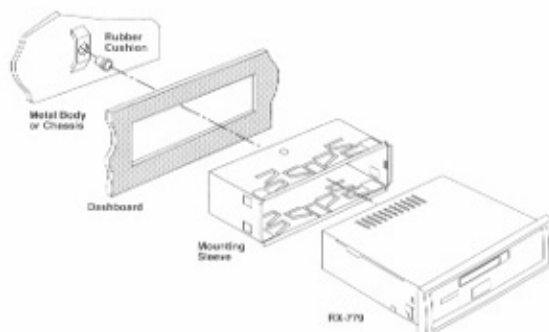

Figure 10. Bushing Support for Unit
5. In some vehicles, the firewall provides a bushing support for the rear of the unit. Check the firewall for this bushing support before installing the unit (see Figure 10). If the support is available, insert the rubber grommet (supplied) to the stud at the back of the unit and slide the unit into place as shown in Figure 10.